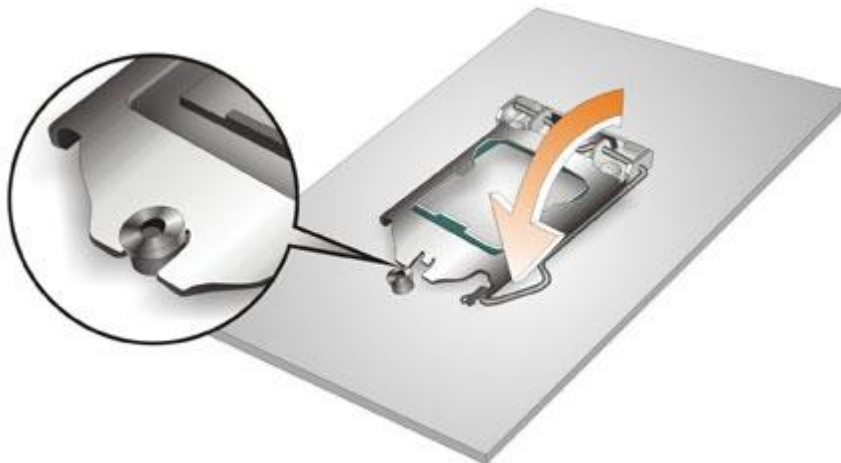

Figure 4-4: Close the Socket LGA1200
Step 8: Close the CPU socket. Close the load plate and pull the load lever back a little to have the load plate be able to secure to the knob. Engage the load lever by pushing it back to its original position (**Figure 4-4**). There will be some resistance, but will not require extreme pressure.